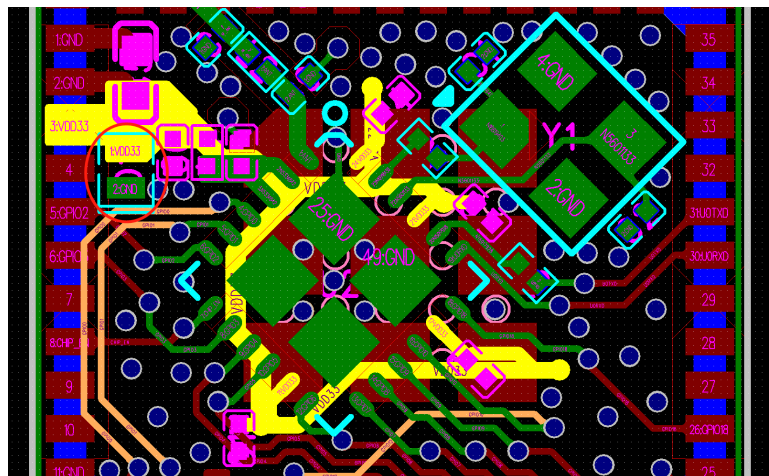

Figure 13: ESP8684 Power Traces in a Four-layer PCB Design
- The 3.3 V power traces, highlighted in yellow, are routed as shown in Figure 13. The width of the main power traces should be no less than 20 mil. The width of the power traces for VDDA3P3 pins should be no less than 15 mil. Recommended width of other power traces is 10 mil.
- The ESD protection diode is placed next to the power port (circled in red in the top left quarter of Figure 13). The power trace should have a 10  $\mu\text{F}$  capacitor on its way to the chip, to be used in conjunction with a 0.1  $\mu\text{F}$  capacitor. Then the power traces are divided into two ways from here and form a star-shape topology, thus reducing the coupling between different power pins. Note that all decoupling capacitors should be placed close to the power pin, and ground vias should be added close to the capacitor's ground pin to ensure a short return path.
If you need to solder the module on another board, it is recommended to employ a four-grid EPAD on the solder mask and paste mask, cover the gaps with ink, and place ground vias in the gaps, as shown in Figure 13. This can avoid tin leakage when soldering the module.